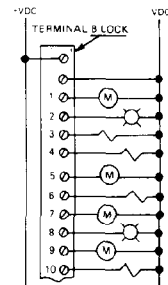

Figure 1 — Typical Wiring
Output devices are wired to the two terminal blocks on the front of the module. The upper terminal block corresponds to the first 16 outputs and terminals "1VDC+" and "1VDC-". The "1VDC+" terminal is the source terminal for the first 16 outputs on the module. The lower terminal block corresponds to the second 16 outputs and terminals "2VDC-" and "2VDC+". The "2VDC+" terminal is the source terminal for the second 16 outputs on the module. If a single voltage supply is used for both groups of 16 outputs, the "VDC+" terminal for each group may be connected together. To obtain proper operation of the module the "VDC+" and "VDC-" terminals must be wired as shown in Figure 1.
- Observe proper polarity of output. See Figure 1.